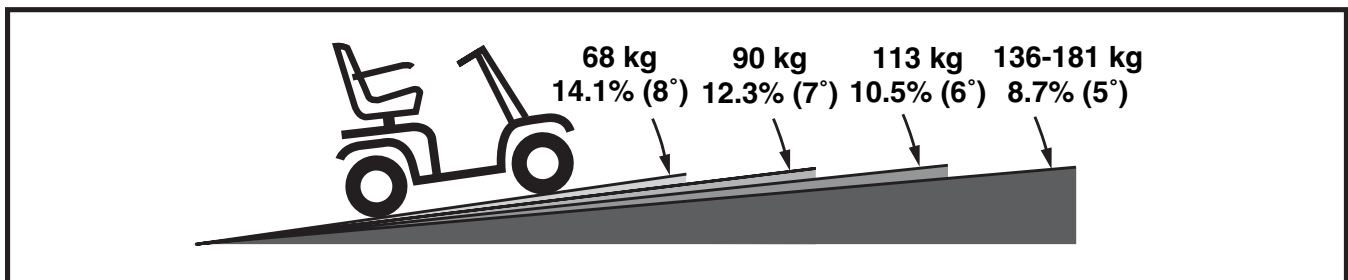

Figure 1. Maximum Recommended Incline Angles
**WARNING! Even though your scooter is capable of climbing slopes greater than those illustrated in figure 1, do not, under any circumstances, exceed the incline guidelines or any other specifications presented in this manual. Doing so could cause instability in your scooter, resulting in personal injury and/or damage to your scooter.**
Handicap public access ramps are not subject to government regulation in all countries, and therefore do not necessarily share the same standard percent of slope. Other inclines may be natural or, if man-made, not designed specifically for scooters. Figure 1 illustrates your scooter's stability and its ability to climb grades under various weight loads and under controlled testing conditions.
**WARNING! Any attempt to climb or descend a slope steeper than what is shown in figure 1 may put your scooter in an unstable position and cause it to tip, resulting in personal injury.**